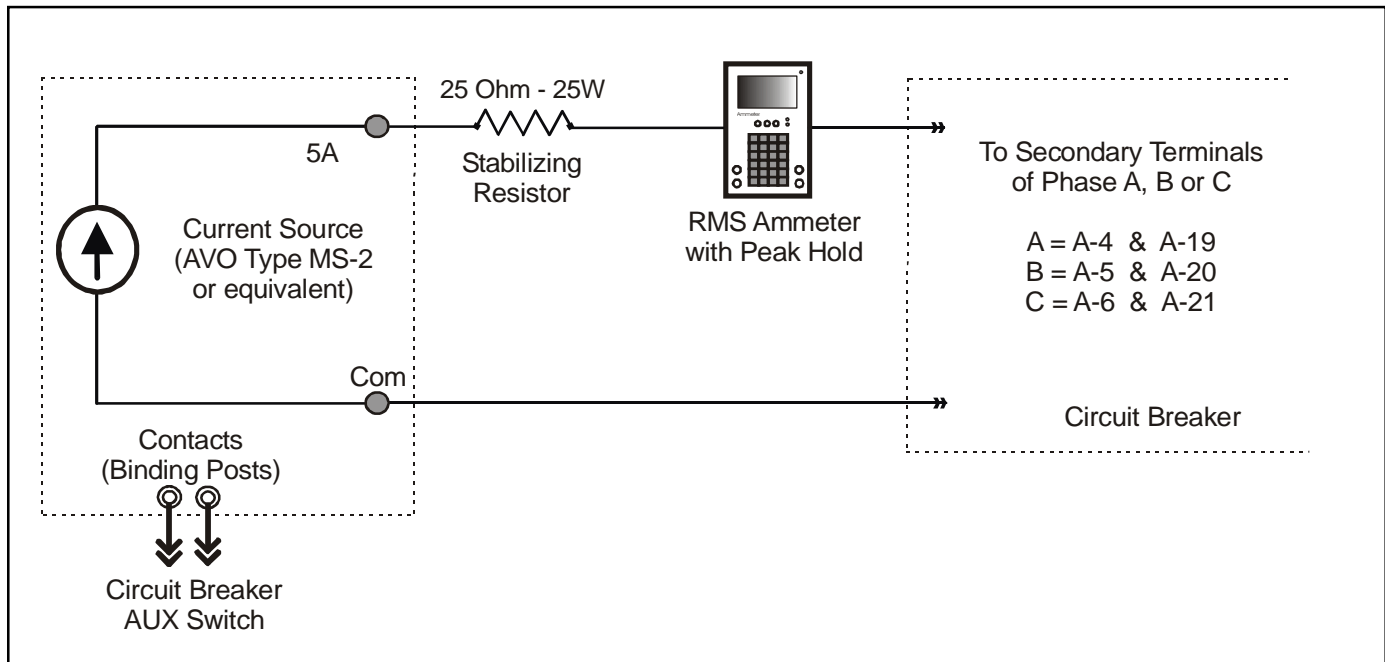

Figure 5.5 Secondary Injection Test Setup
2. For secondary injection tests, a separate True RMS ammeter with a "peak hold" feature is required (See Figure 5.5). The built in meter of the MS-2 tester is not True RMS and does not provide an accurate measurement of the secondary injection current. This is because of the trip unit's "chopper" power supply. The peak hold feature will hold the trip current level when an auxiliary switch from the circuit breaker is wired back to the tester's terminals (white posts) labeled *Contacts*.
3. Also when performing low current secondary injection tests (less than 2 Amperes) it is desirable to insert an additional 25 ohm impedance (resistor or inductor) rated at 25 or 50 watts in series with the 5A terminal post. This will provide proper impedance for the "chopper" and is useful in stabilizing the current (See Figure 5.5).